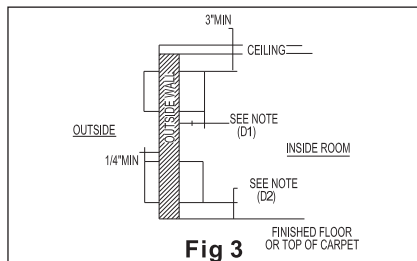

Fig 3
- There should be sufficient space margins around the unit to facilitate maintenance and repairs(refer to Figs 3 and 4)